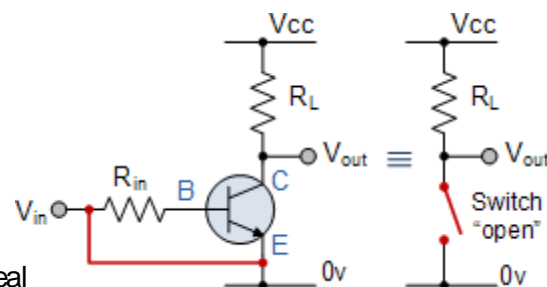

Figure 3.19 Saturation mode
b) NPN transistor in saturation mode (Figure 3.19).